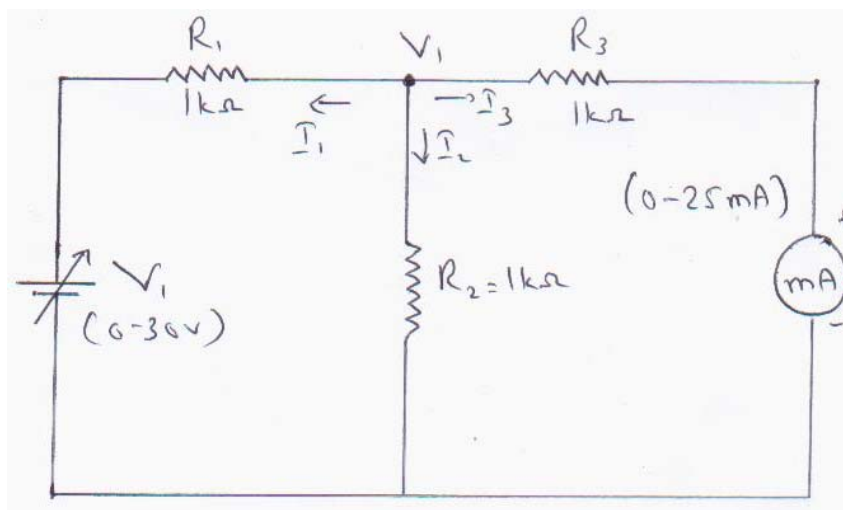

Figure 6.3
1. Connection are made as per the circuit diagram shown in figure 6.3